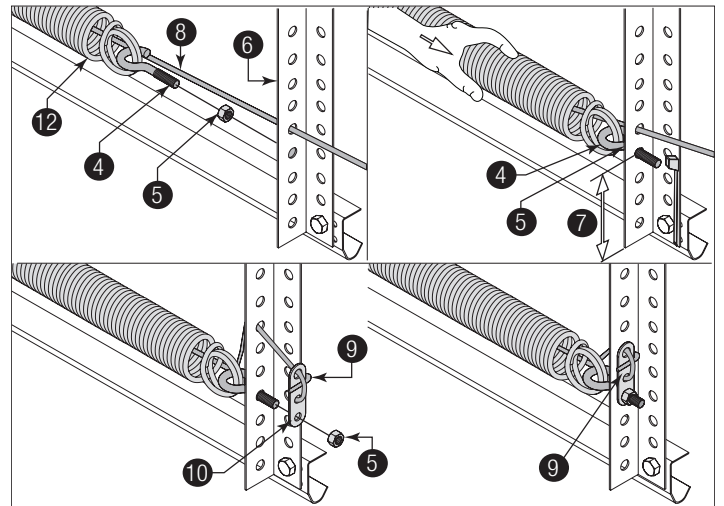
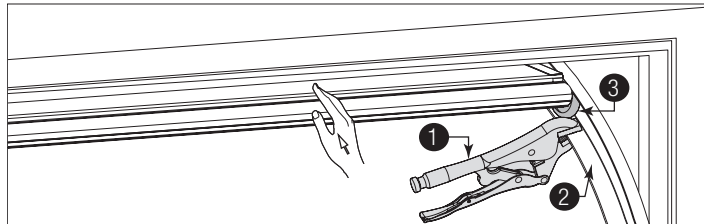

Figure 51, Left Side Shown
Figure 48, Outside Of The Door In The Open Position
See Figure 48 through Figure 51 for the following steps.
**IMPORTANT:** Whenever adjusting extension spring length for door balance, always open the door to the fully open position and return the locking pliers, as shown in Figure 48 to the horizontal tracks below the bottom track rollers.